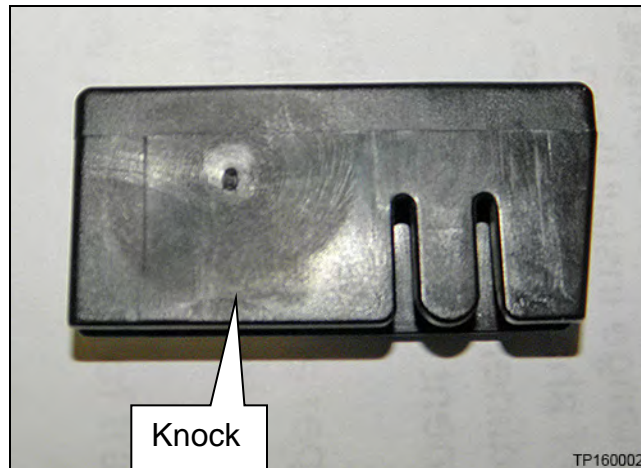

Figure 1
- Detached knocks (Knock shown in Figure 1) may lodge in the Moonroof track and prevent correct Moonroof, wind deflector, or sunshade operation.